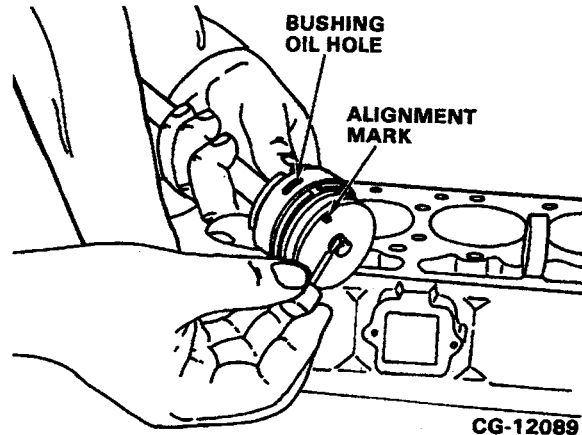

Figure 5.24. Mark Oil Hole Location
4. Mark the oil hole location on the back-up nut of the installation tool to aid in the alignment of the bushing and crankcase oil holes. Refer to Figure 5.24.